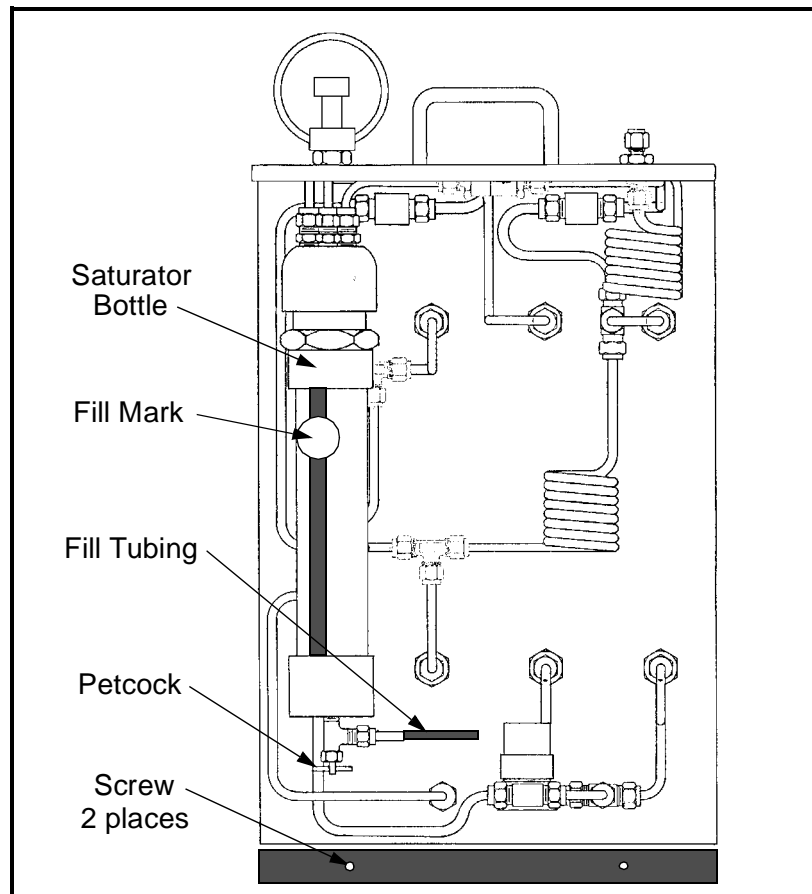

Figure 2: MG101 Rear View (with panel removed)
1. Take off the back panel by removing the two small back screws (see Figure 2 below).
2. Fill the supplied plastic squeeze bottle with distilled (not deionized) water and connect it to the fill tubing at the bottom of the saturator bottle (see Figure 2 below). This length of plastic tubing is left permanently attached to the fitting at the bottom of the saturator bottle.
5. Using the squeeze bottle, fill the saturator bottle until the water level reaches the fill mark on the bottle (see Figure 2 above).